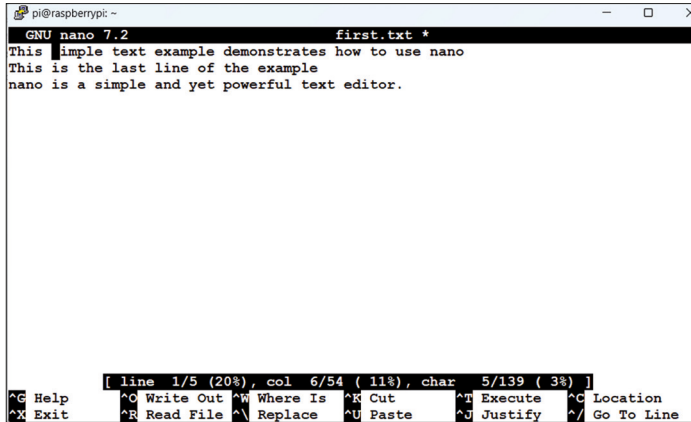

Figure 2.6: Displaying row and column position of a word.
**Step 5:** Place cursor at the beginning of word **simple** on the first line. Enter **Ctrl+C**. The row and column positions of this word will be displayed at the bottom of the screen (Figure 2.6).